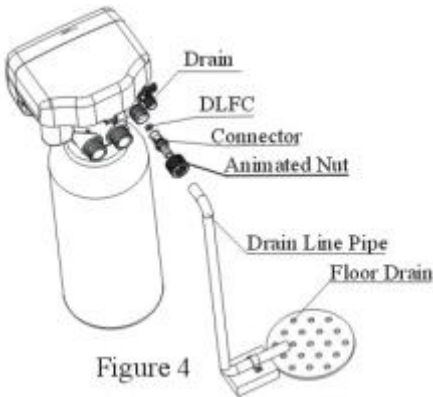

Figure 4
④ Install drain pipeline
- a. As the Figure 4 shows, Insert drain line flow control into drain outlet.
- e. Locate the drain hose well as the Figure 4 show.
●Be sure not connect drain with sewer, and leave a certain space between them, avoid wastewater be absorbing to the water treatment equipment, such as showed in the Figure 4.